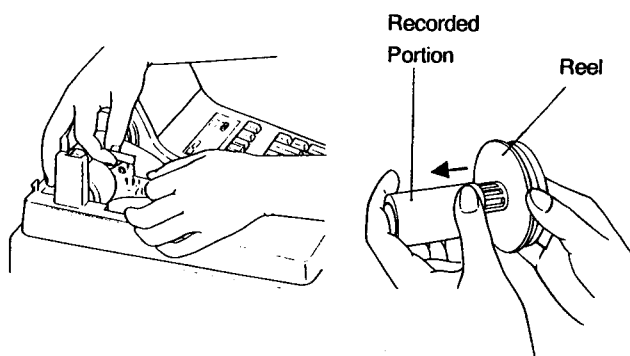

Fig. 6
2. Remove the Journal Winding Reel from the holder. Tear off the recorded portion of the paper, and draw it out from the reel in the direction as shown in the figure. (Fig. 6)